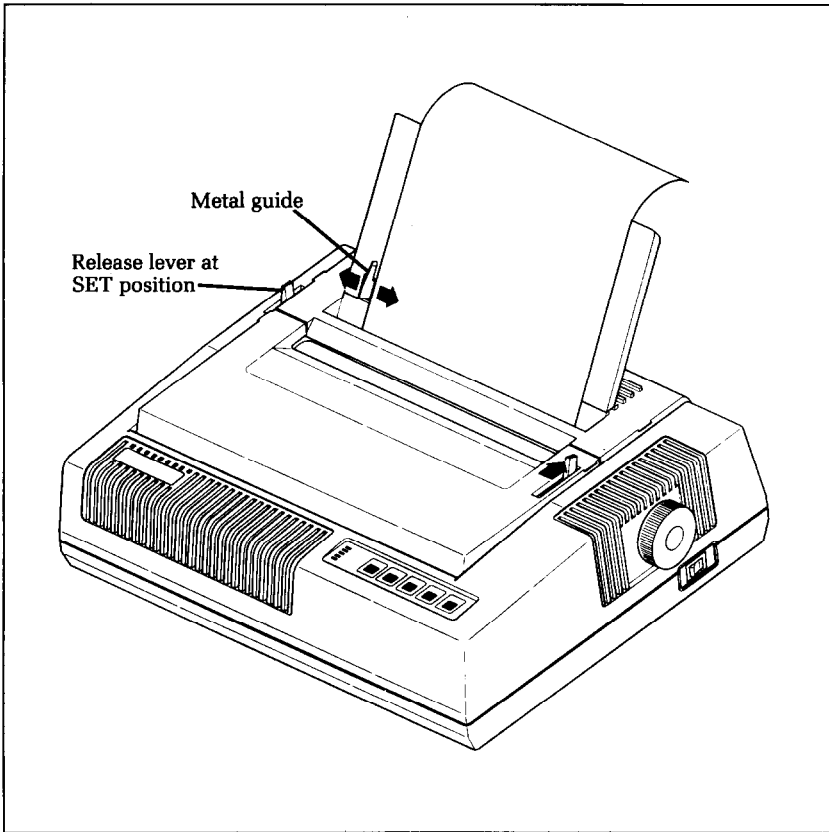

Figure 1-5. The metal guide is used to align the left margin.
2. To set the margin, use the little metal guide (shown in Figure 1-5) in one of its 3 positions.